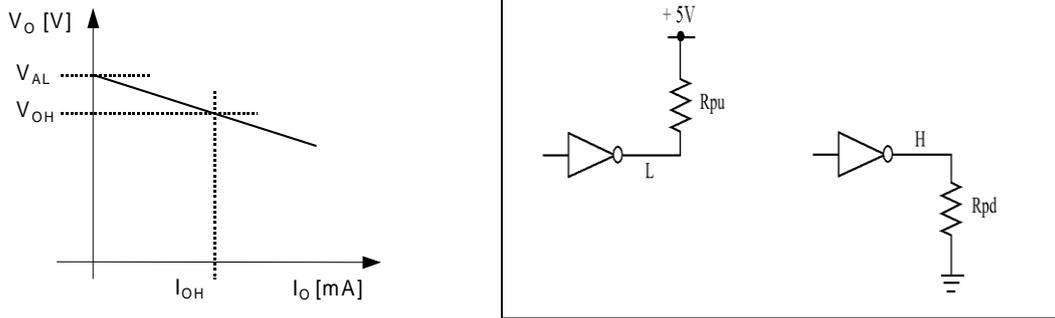

Figure 2: V_{OH} and I_{OH} definition (left) and possible connections of the load (right)
2. Refer to the original scheme of section 2.1 and Figure 2. Alternately connecting the 4 output resistors (operating on the switches S2, S3 and S4), obtain the graph $V_o(I_o)$ for the H state [for the L state] of the gates HC04 [LS04] (interpolate the behavior from the 4 measured values). For the L state, connect the resistors to +5 V, for the H state connect them to GND (selector S1) as shown in Figure 2 (right). Calculate the current I_o as the ratio between the voltage drop on pull-up or pull-down resistance and the value of the resistance itself.